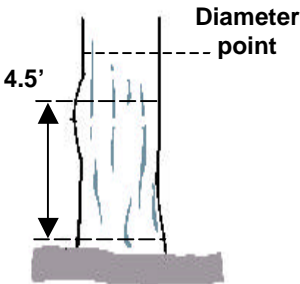
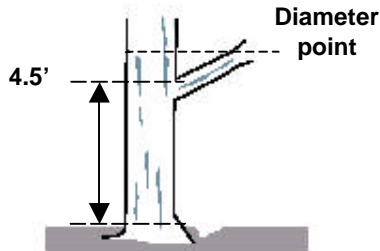

Figure 15. Tree with swelling
Figure 16. Tree with branch
- 4. Trees with irregularities at DBH: On trees with swellings (Figure 15), bumps, depressions, and branches (Figure 16) at DBH, diameter will be measured immediately above the irregularity at the place it ceases to affect normal stem form.